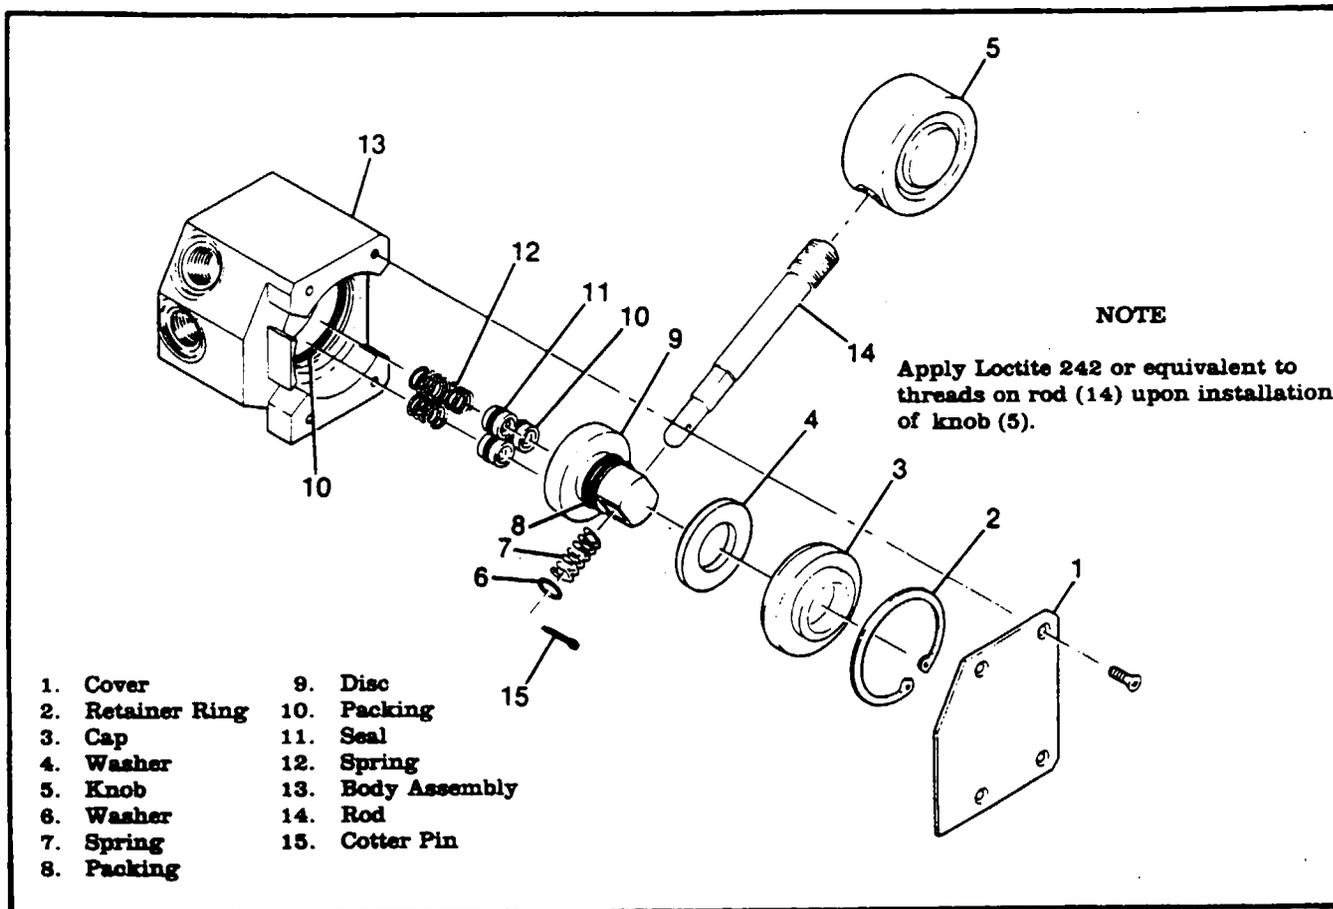

Figure 5-7. Gear Selector Valve
5-31. LANDING GEAR SELECTOR VALVE. (Refer to figure 5-7.)
5-33. REMOVAL AND INSTALLATION. (Refer to figure 5-7.)
5-34. DISASSEMBLY AND REASSEMBLY. (Refer to figure 5-7.)
- a. Remove cover (1), retaining ring (2) and cap (3).
- b. Remove cotter pin (15), washer (6), and spring (7).
- c. Pull rod (14) from disc (9); remove disc.
- d. Remove seals (11) and springs (12).
5-35. INSPECTION AND REPAIR. (Refer to figure 5-7.) Replace packing (8) and (10). Check valve for wear, foreign or abrasive materials. Disc (9) may be refaced (lapped) if worn or abraded.